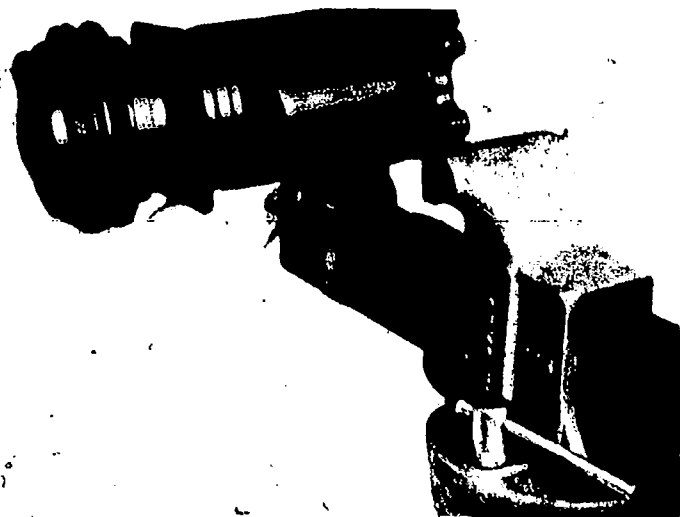

Fig 72 -- Pour Oil Into Container
2. Pour oil from compressor into container calibrated in ounces (or milliliters). See Fig. 72.